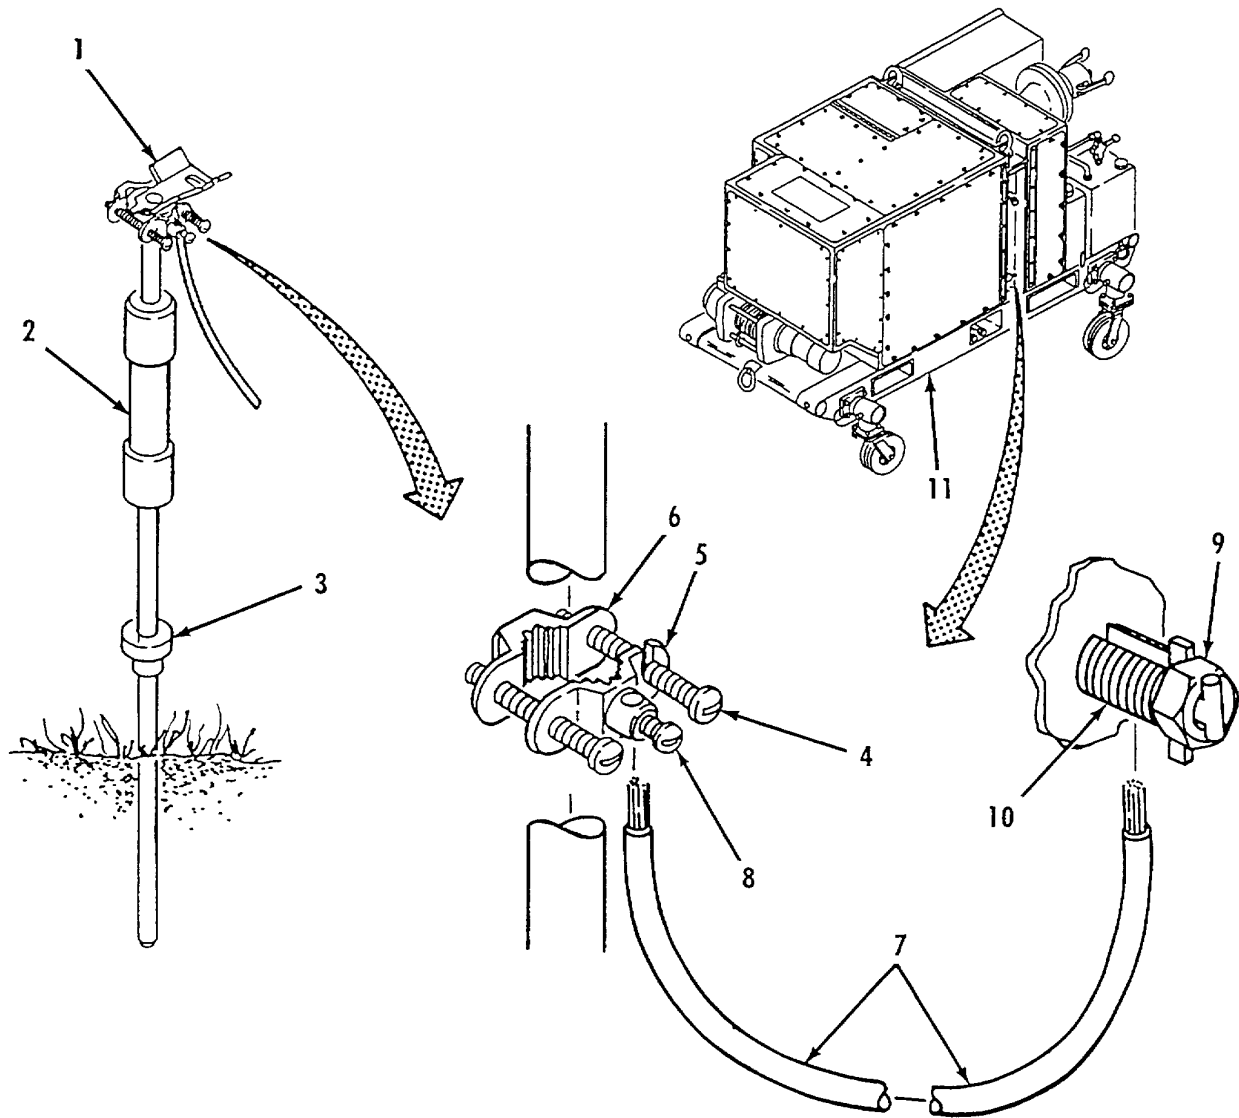

Figure 2-18. 200 GPM Pump Ground Rod Installation.
k. 200 GPM Pump Ground Rod Installation. Refer to figure 2-18